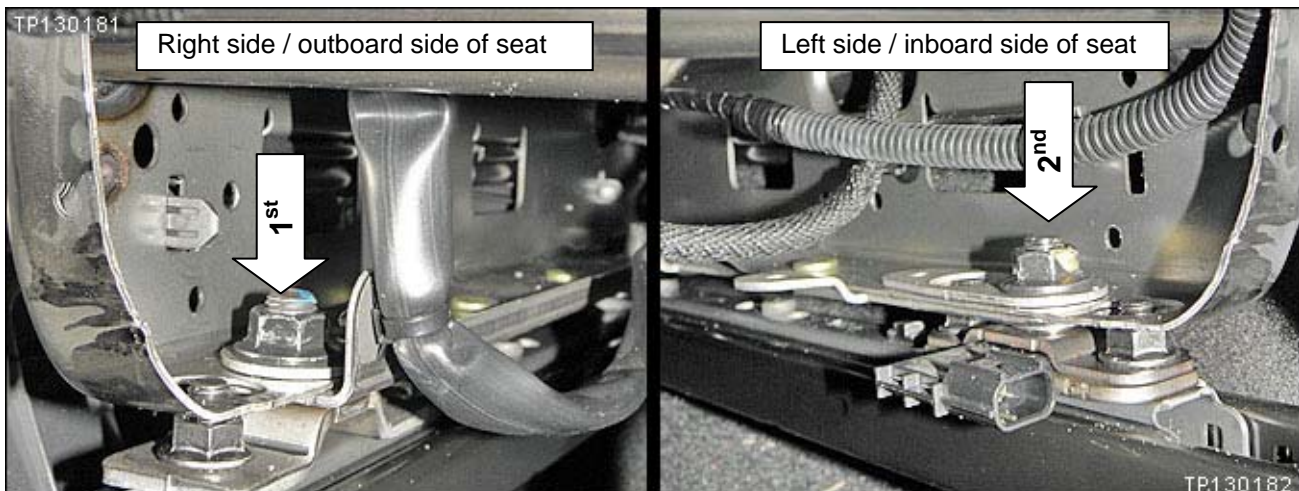

Figure 13
a. Install both front 14 mm nuts **finger tight only** (see Figure 13).
b. Torque 14 mm nuts as follows (see Figure 13):